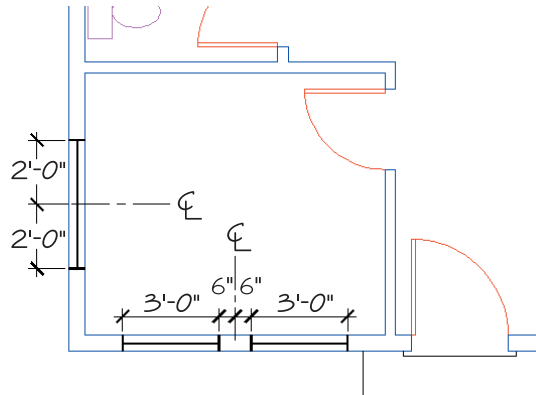

FIGURE 7.19: The bedroom windows
The bedroom has windows on two walls: two 3' windows centered in the front wall 12" apart, and one 4' window centered in the left wall (see Figure 7.19). You'll make the 4' window first.
1. Use a zoom window to zoom in to a view of the bedroom similar to that in Figure 7.19. Click the Polar button on the status bar to turn on Polar Tracking. Polar, Osnap, and Model should now be in the on position.
The pair of windows in the front wall of the bedroom are 3' wide and 12" apart and are centered horizontally in the bedroom wall (refer to Figure 7.19, shown earlier). You can use a guideline to locate the insertion points for these two windows.